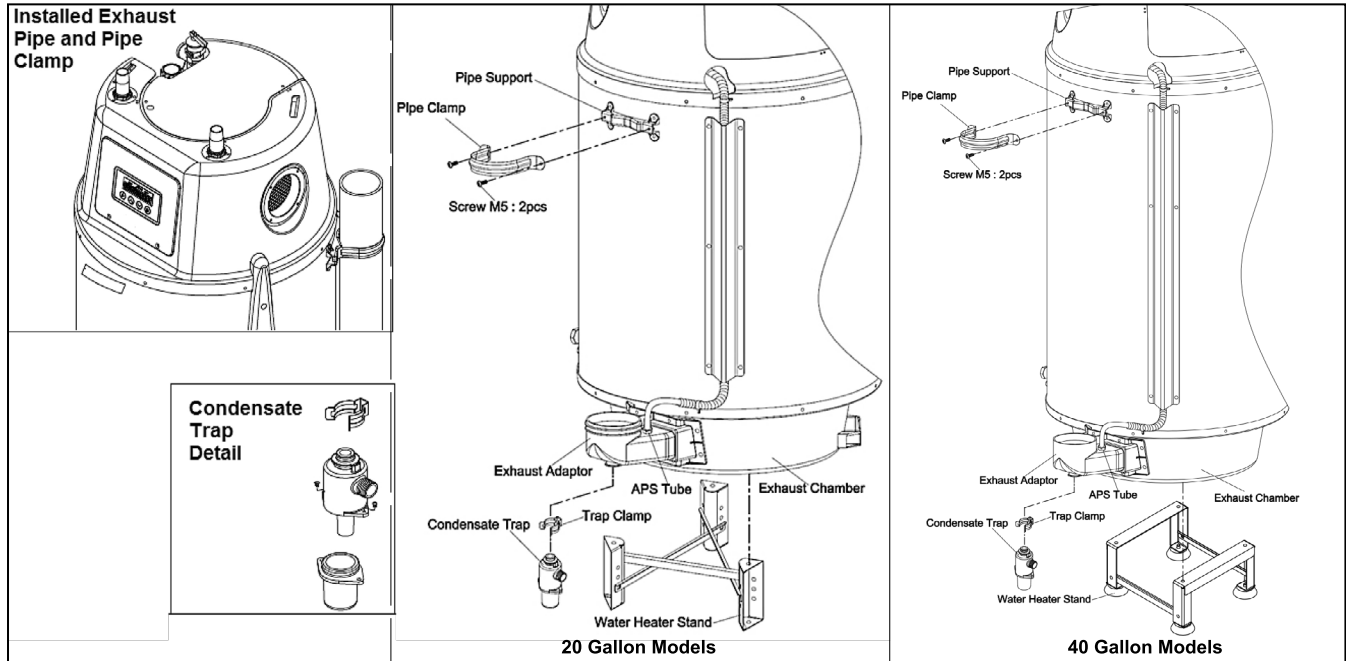

Figure 9 - Installing the Water Heater Exhaust Pipe Clamp, Condensate Trap, and Setting the Water Heater on the Stand
4. After the stand is assembled, it is highly recommended that two people lift and gently lower the water heater onto the water heater stand. See Figure 9.